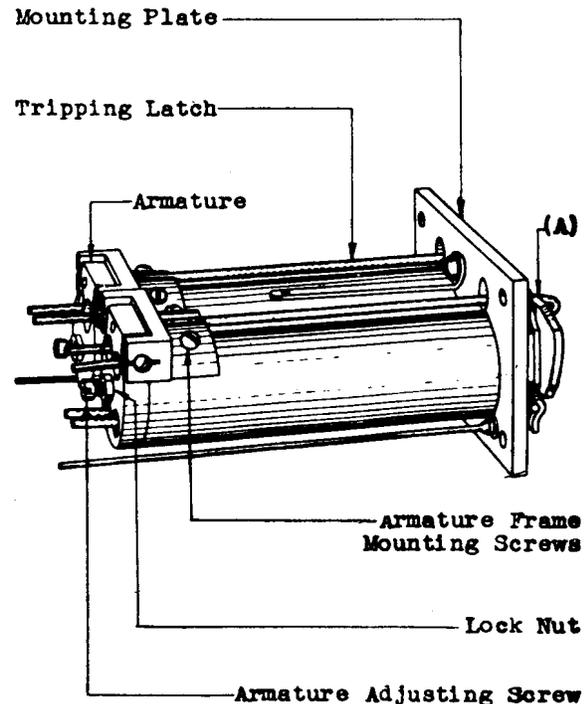

Fig. 1 - Parts of 56 Type Drop
*2.04 Tripping Latch Position - Figs. 1 (A) and 2 (A):